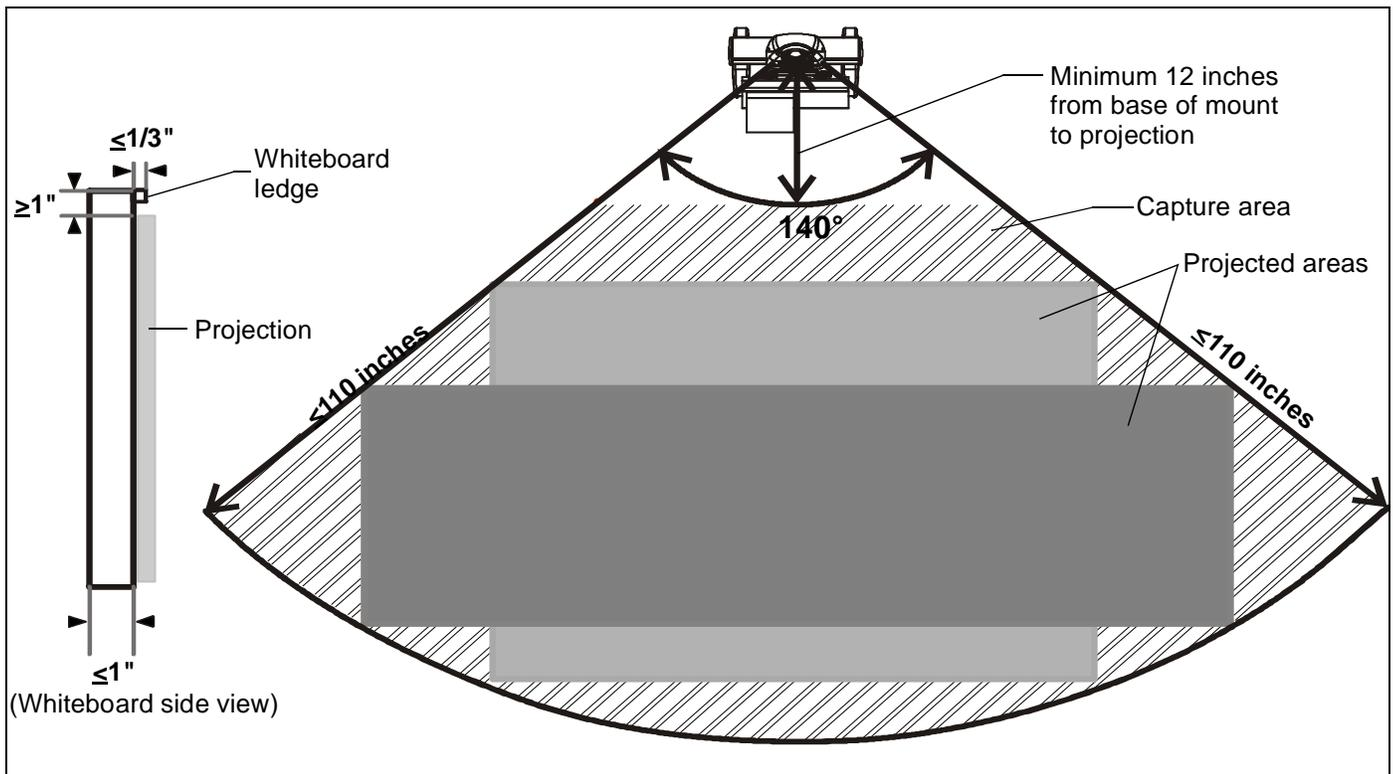

Figure 11
WM2XXSI Placement and Projection Area Constraints (See Figure 11)
- The whiteboard should not be thicker than 1". (See Figure 11)
- The ledge of the whiteboard frame should be less than or equal to 1/3". (See Figure 11)
- Do not put sticky notes, hanging paper, cables, outlets, or other items below the wall mount or inside the capture area. (See Figure 11)